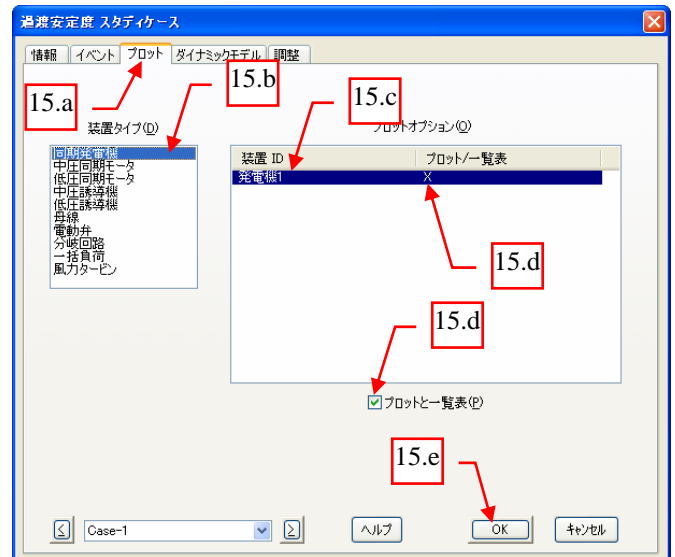

図 9
15. Since the concern is to verify the response of the 発電機 1 due to the disturbance, instruct the program to create plot profiles for the 発電機 1. 図 9 参照